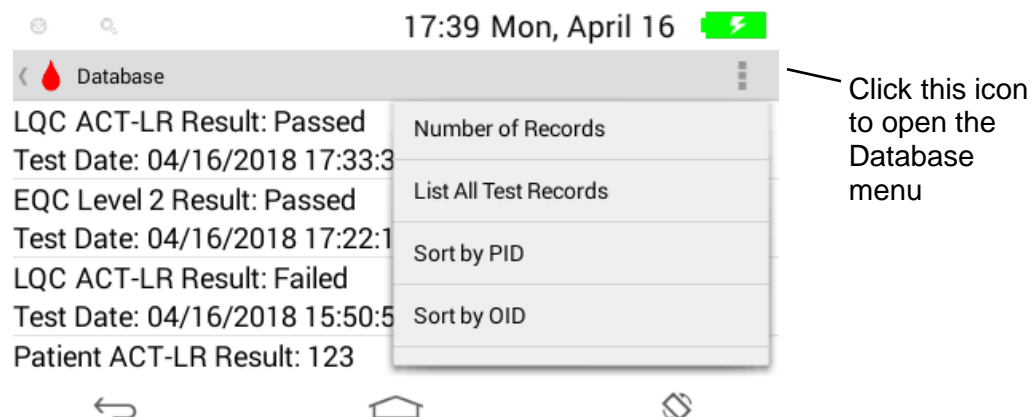

Figure 54 – The Database menu
- Displays the test result. See Figure 54.